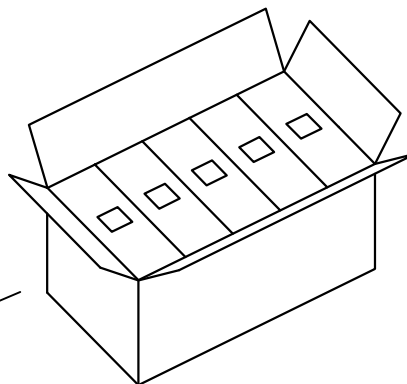

图4 外箱
- 3: As shown in Figure 4, each outer box is packed with 10 inner boxes, It is 10X(8X1000pcs).